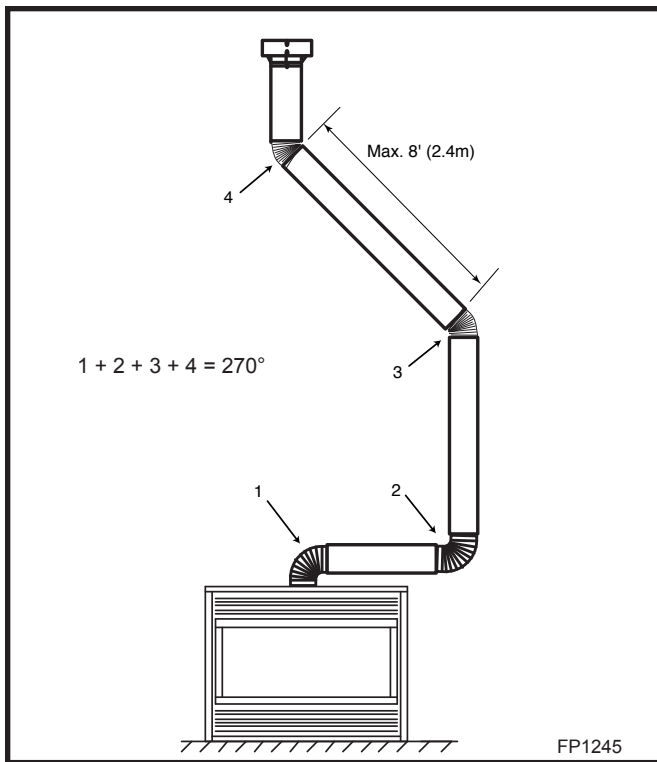

Fig. 32 Typical offset application.
- Two sets of 45° elbows offsets within these vertical installations. From 0 to a maximum of 8' (2.4 m) of vent pipe can be used between elbows. (Fig. 32)